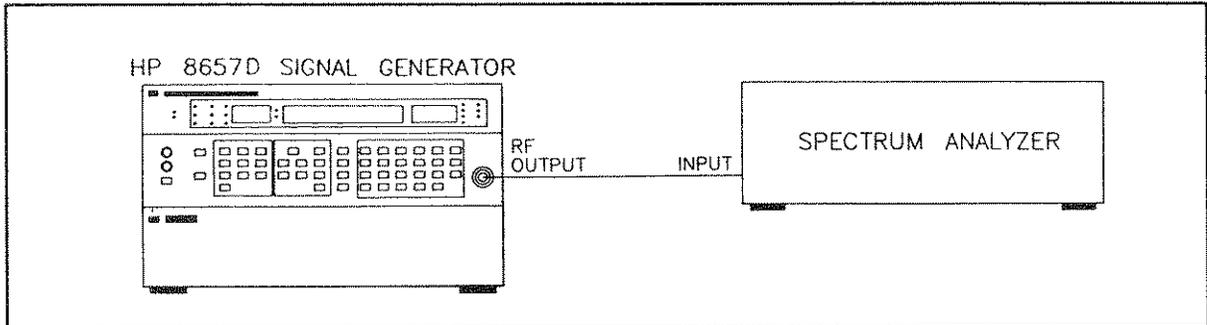

Figure 4-1. Spurious Signals Test Setup
3. Connect the RF OUTPUT of the HP 8657D to the input of the spectrum analyzer as shown in Figure 4-1. Verify that all harmonics are within the specifications shown in the following table: